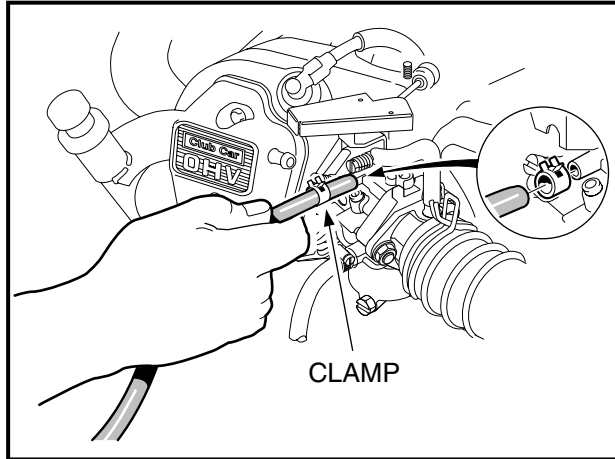

Figure 16-58 Carburetor Vent Tube
32. Connect carburetor vent tube to carburetor and secure with hose clamp (**Figure 16-58, Page 16-23**).